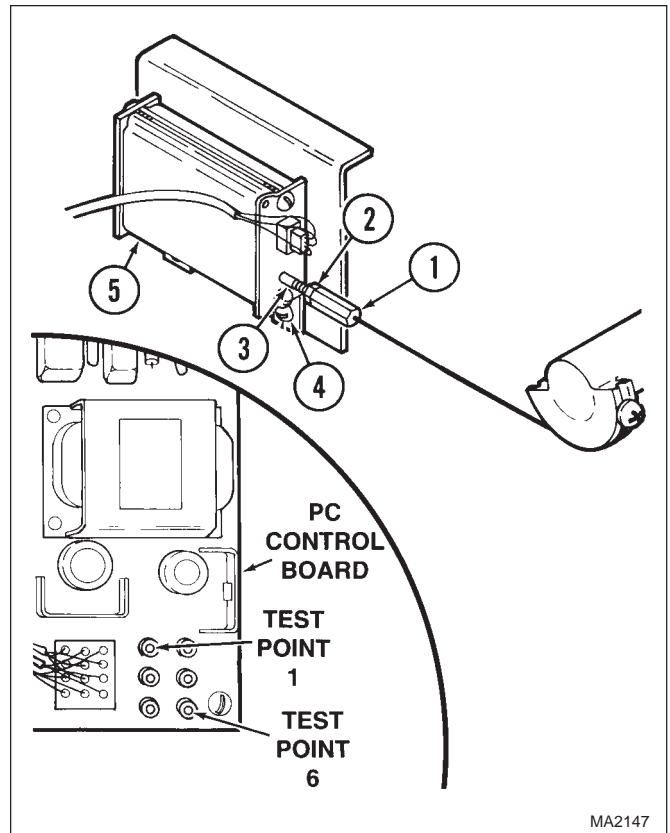

Figure 4-21. Trendelenburg Transducer Adjustment
- (1) Remove electrical cover (Refer to para 4-4).
- (2) Lower the bellows assembly (Refer to para 4-3).
- (3) Plug the positive probe of the multimeter into Test Point 1 and the negative probe of the multimeter into Test Point 6 of PC control board. See Figure 4-21.
- (5) While holding cable/turnbuckle assembly (1, Figure 4-21), loosen nut (2).